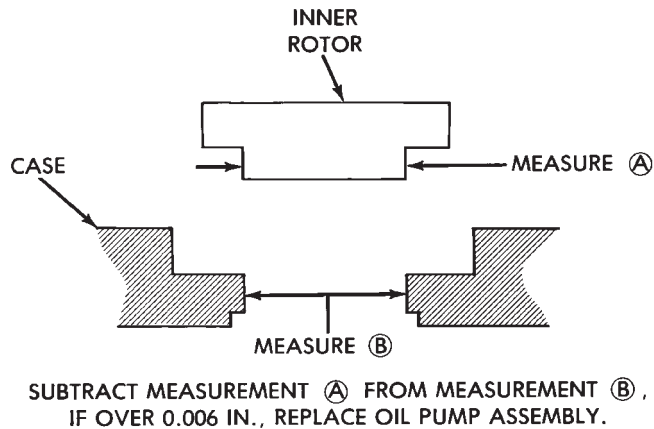

Fig. 8 Inner Rotor to Case
(1) Check oil pump case for damage and remove rear cover.
(2) Remove pump rotors and inspect case for excessive wear.
(3) Measure clearance between case and inner rotor (Fig. 8).